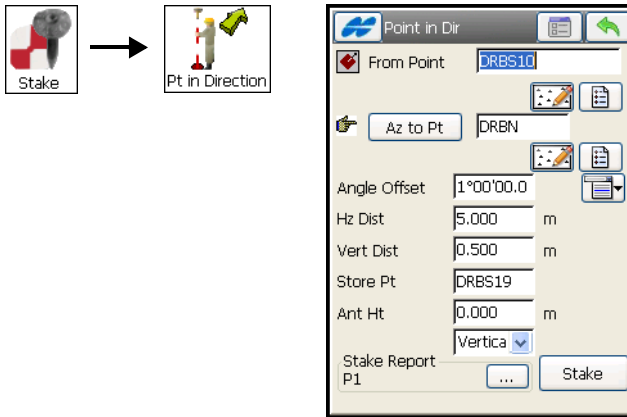

Figure 9-16. Stakeout Point & Direction
- To perform a Point and Direction stakeout, tap **Stake ► Point in Direction** (Figure 9-16).
Enter the name of the stakeout point in the *Store Pt* field. Tap the **Stakeout** button (Figure 9-16 on page 9-13).